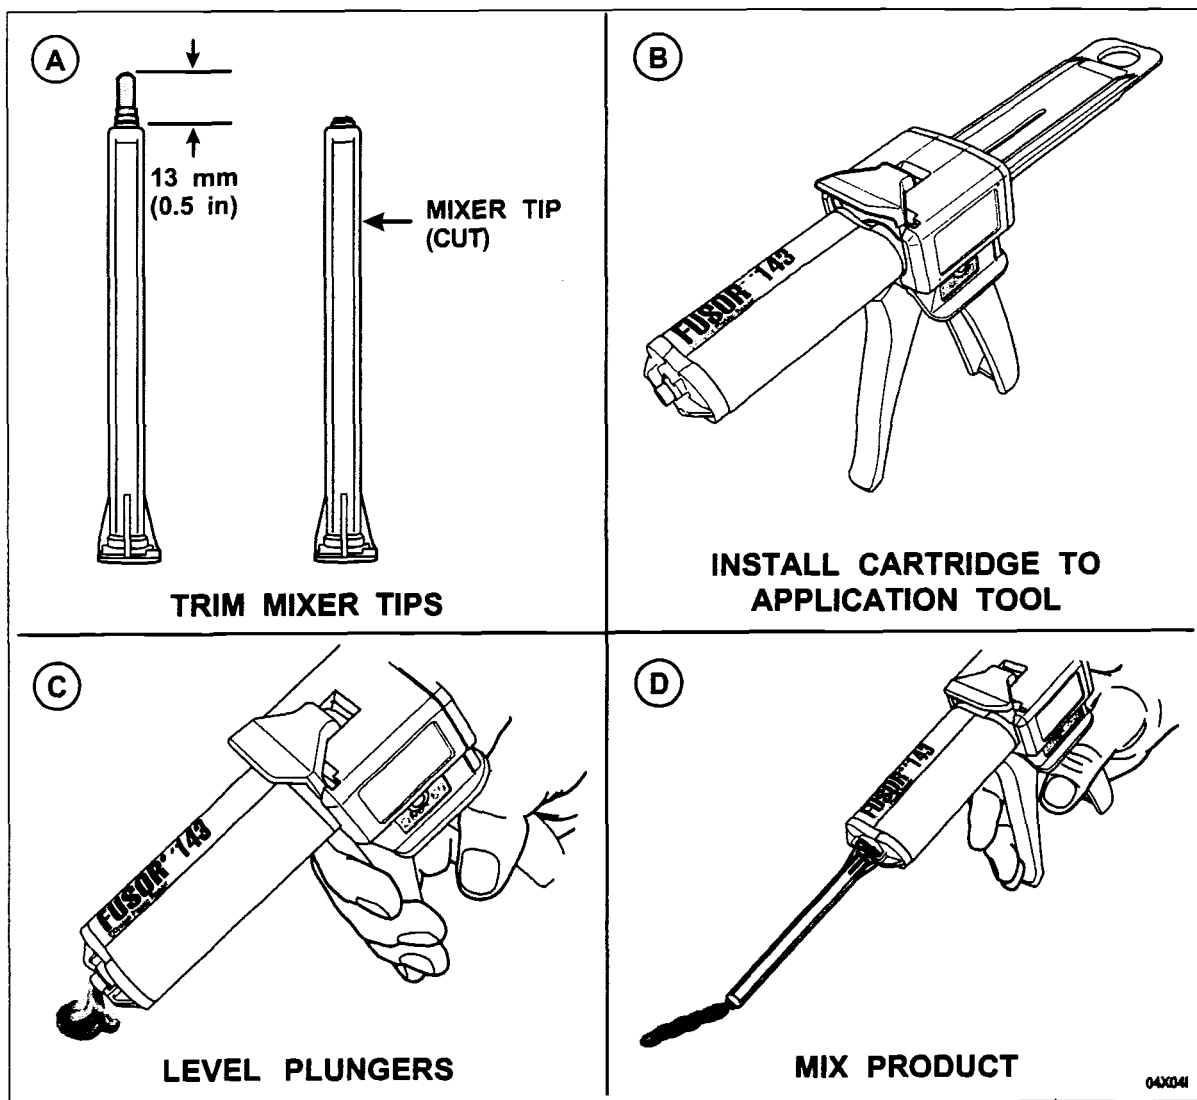

FIGURE 9
- A) Trim approximately 13 mm (0.5 in) off the top of both mixer tips, down to the last ring. See Figure 9.
- D) Install one (1) mixer tip onto the cartridge and dispense a 75-mm (3-in) bead of the adhesive onto a piece of scrap cardboard (until the product is evenly mixed and the color is consistent).